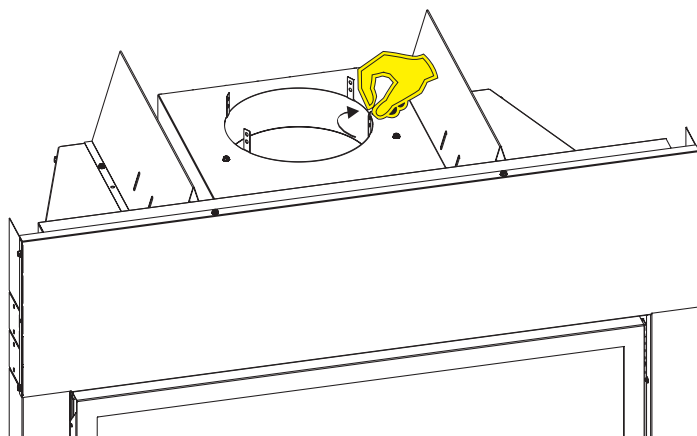

Figure 22
1. Hand bend the tabs up on the Outer Wrapper Top Assembly as shown in **Figure 22**.